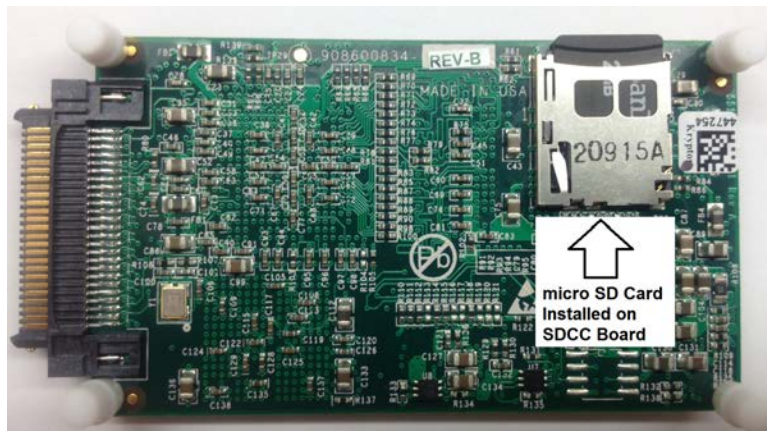

Figure 5. Bottom View of the SDCC Board with the microSD Memory Card Installed
**NOTE:** Ensure the microSD memory cards that contain the software are installed in the microSD socket on the back of the SDCC board and on the back of ADS8688EVM board. Figure 5 and Figure 6 show the bottom view of the SDCC controller board and ADS8688EVM, respectively, with the microSD card installed.
1. Verify the microSD card is installed on the back of the SDCC board; see Figure 5.